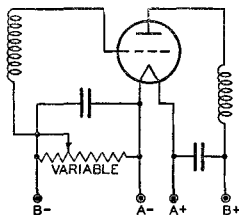
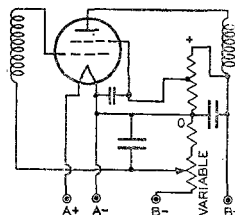

Fig. 55
Fig. 57
**Grid-bias variation for the r-f and i-f amplifier stages is a convenient and frequently used method for controlling receiver volume.** The variable voltage supplied to the grid may be obtained: (1) from a variable cathode resistor as shown in Figs. 55 and 56; (2) from a bleeder circuit by means of a potentiometer as shown in Fig. 57 or (3) from a bleeder circuit in which the bleeder current is varied by a tube used for automatic volume control. The latter circuit is shown in Fig. 41. In all cases it is important that the control be arranged so that at no time will the bias be less than the recommended grid-bias voltage for the particular tubes used. This requirement can be met by providing a fixed stop on the potentiometer, by connecting a fixed resistance in series with the variable resistance, or by connecting a fixed cathode resistance in series with the variable resistance used for regulation.